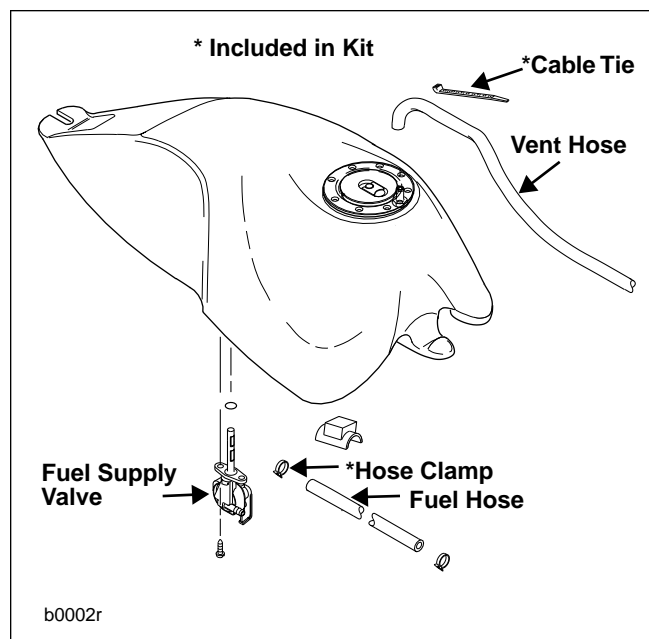

Figure 1. Fuel Tank (S1 Shown)
7. See Figure 1. Remove hose clamp from fuel hose from fuel supply valve.
15. See Figure 1. Install **new** hose clamp to fuel hose and fuel supply valve.